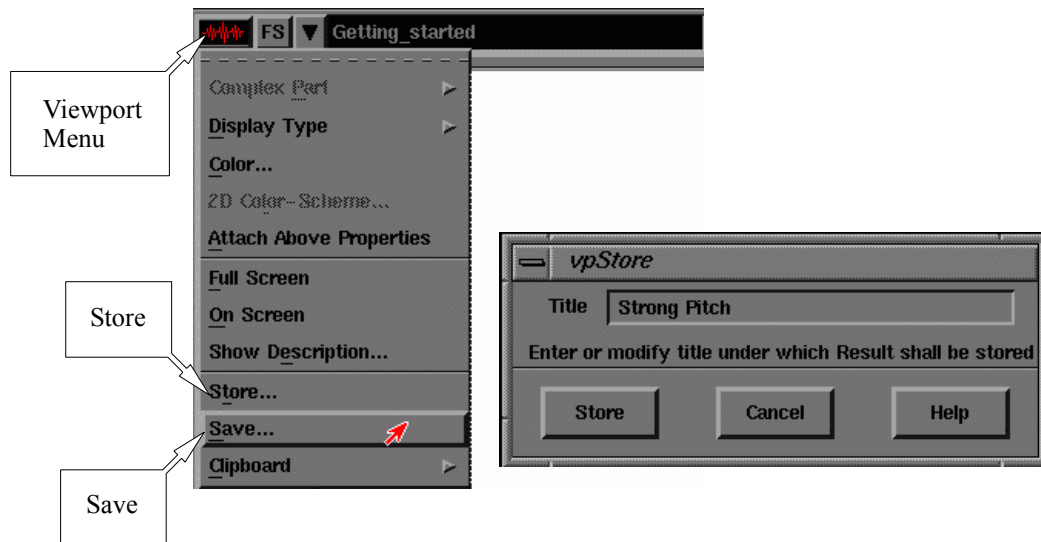

Figure 3-24 The Save, Store buttons and Store dialog box.
1. **Store your spectrum.** Click the menu button in the viewport. Click **Store** in the drop-down menu. (See Figure 3-24.) The **Store** dialog box allows you to enter a descriptive title for the dataset. The presently active spectrum is stored in memory when you click **Store**.